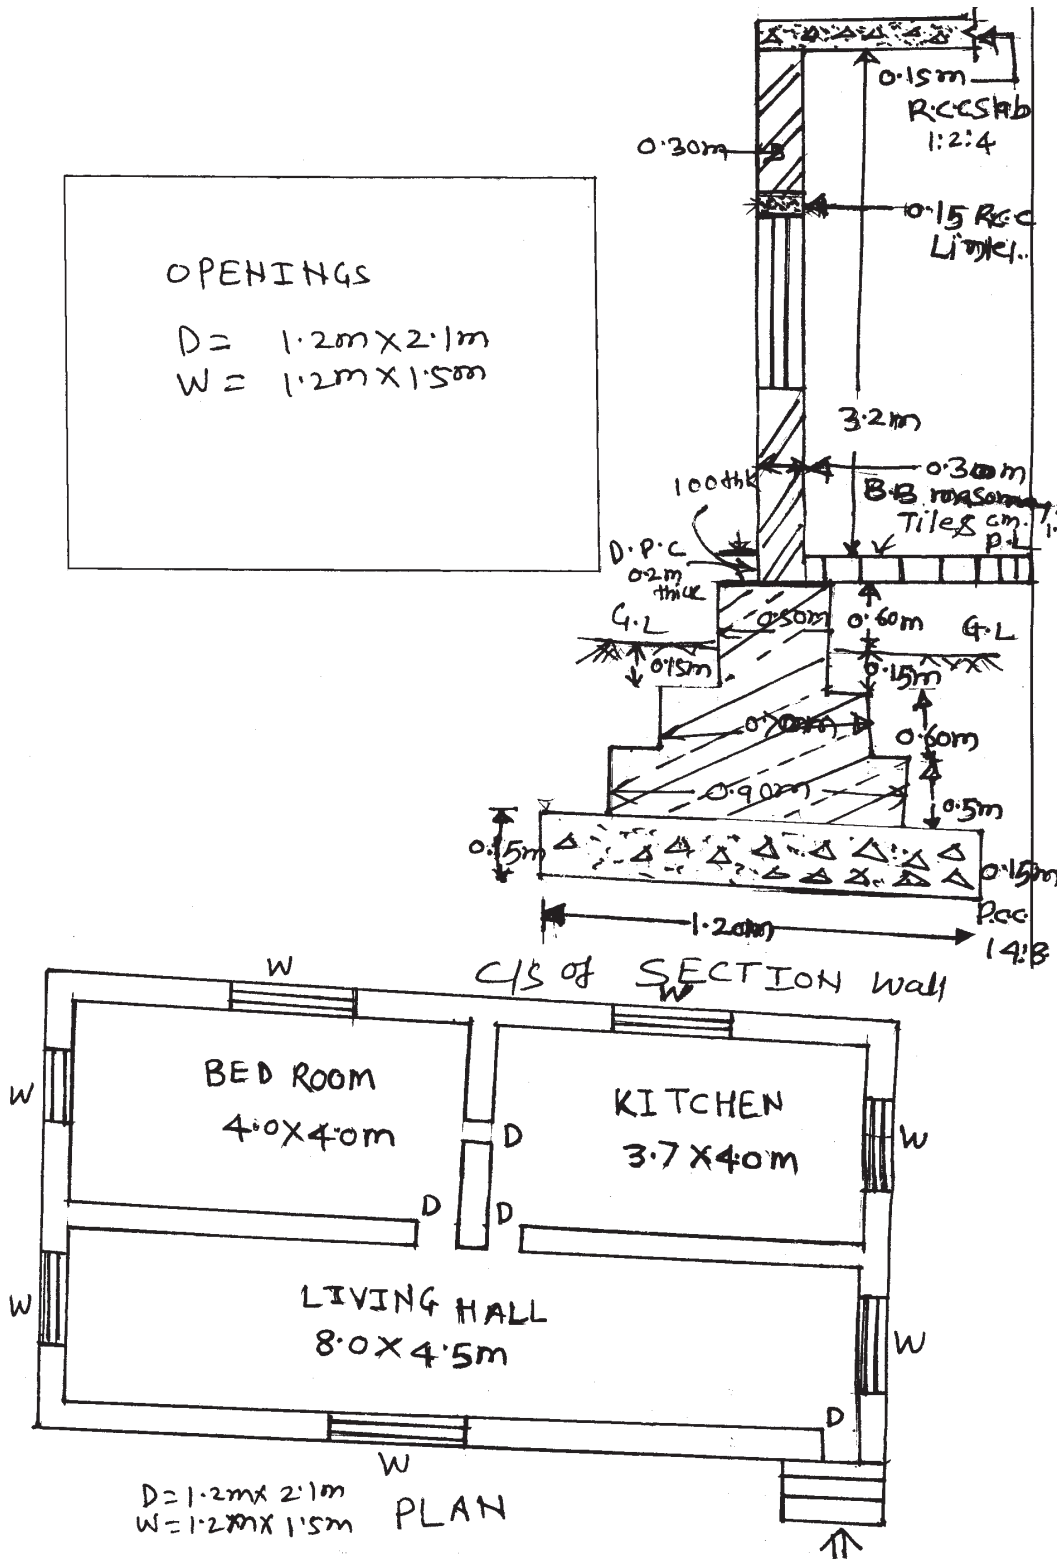

Fig. No. 1
- Workout quantities of following any three items and enter the same in standard format for measurement sheet with description of item Refer Fig. No. 1 (any four):